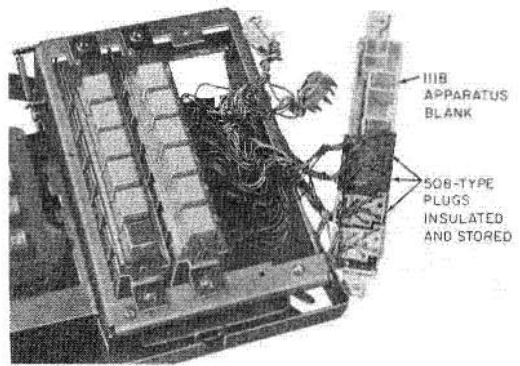

Fig. 13—Insulating and Storing 508-Type Plugs on 111B Apparatus Blank
**2.22** Insulate and store unused 508-type plugs on the 111B apparatus blank as shown in Fig. 13. Individual 508-type plugs can be insulated and stored by taping an 814632659 (P-46C265) cover over the contacts of the plug.